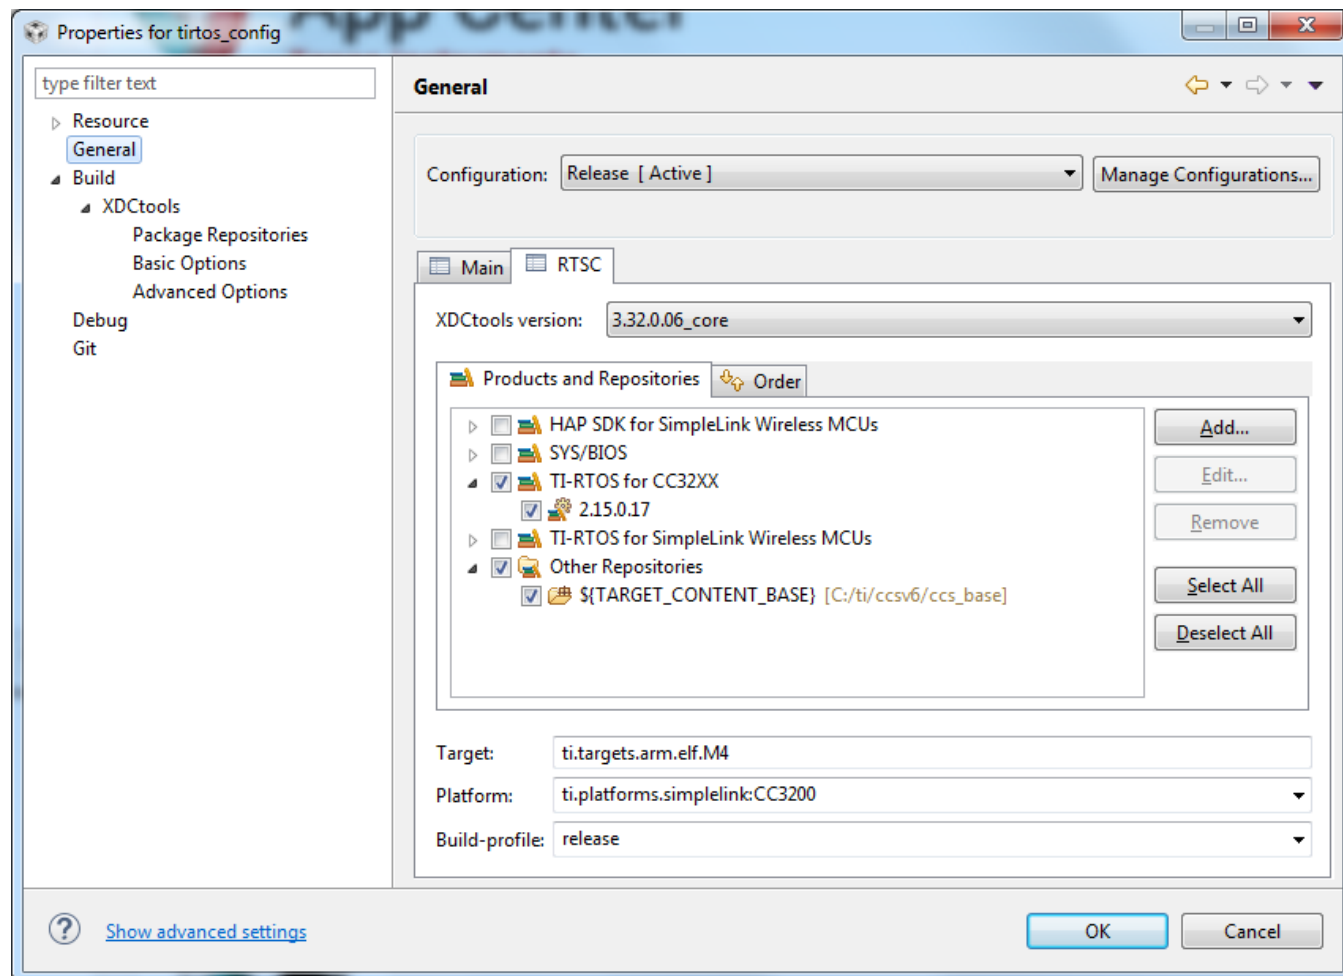

Figure 7. Properties for ti_rtos_config
4. Select the `ti_rtos_config` project in Project Explorer, and select **Project>Properties** from the menu. Under General, select the RTSC tab as shown in Figure 7. Select the latest versions of XDCtools and TI-RTOS for SimpleLink (not shown in Figure 7). Also verify the platform is selected as `ti.platforms.simplelink:CC3200`.